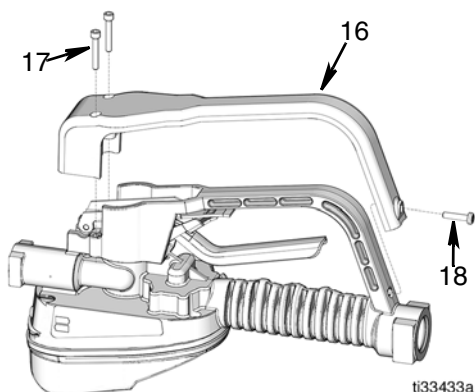

FIG. 19
3. Remove screws (17 and 18) and trigger guard cover (16) (FIG. 19).